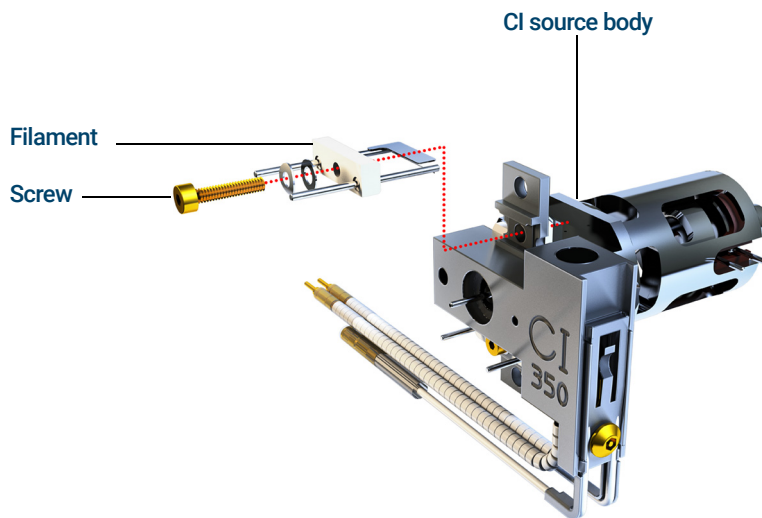

Figure 82. Changing the CI source filament
- 4 Remove the screw holding the filament to the CI source body. (See Figure 82 on page 249.)
- 5 Slide the filament off the CI source assembly. (See Figure 82 on page 249.)
- 2 Place the new filament into its position on the ion source body. (See Figure 82 on page 249.)